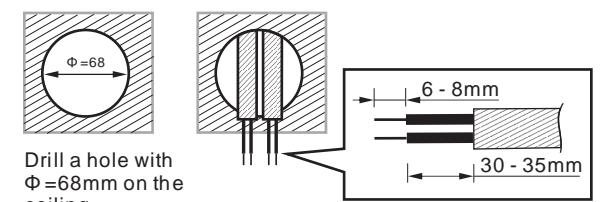

FIG.8
3.3.2.1 To install sensor, please drill a hole with diameter of 68mm on ceiling board and keep the power cable outside. Please strip off 6-8mm of cable sheathing for wiring (See FIG.8).